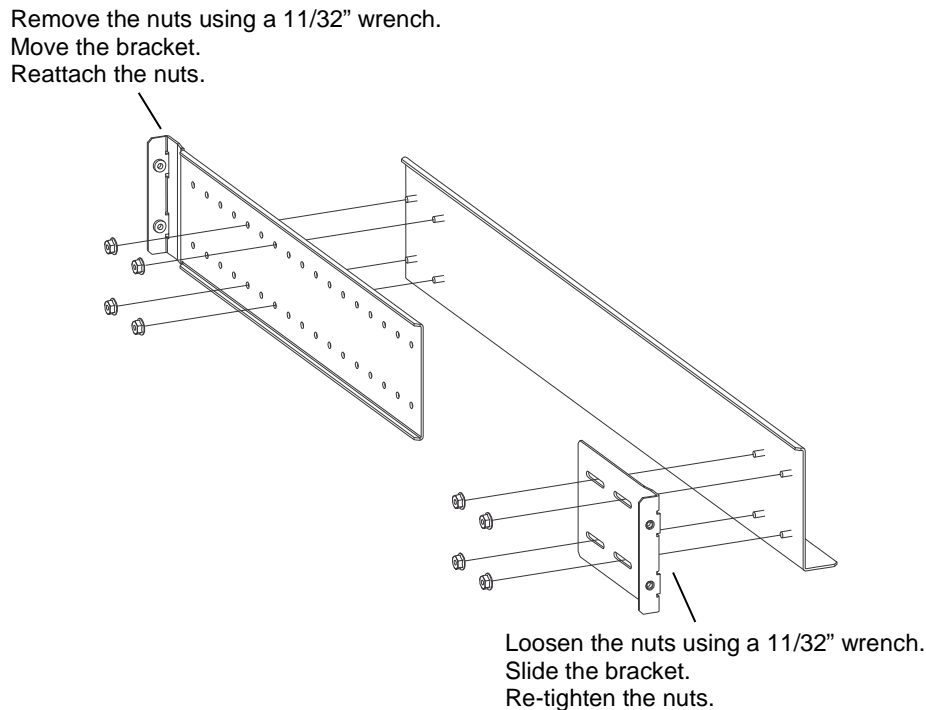

Figure 5-3 Adjusting the Location of the Rack Rail Assembly Brackets
3. Each rack rail assembly bracket has four hex head nuts that are used to position the brackets. To move a long bracket, use a 11/32" wrench to remove all four nuts, reposition the bracket along the four threaded studs of the rack rail and then re-attach the four nuts. The short bracket is used to "fine tune" the length of the assembly by loosening the four nuts with the 11/32" wrench, sliding the bracket and then re-tightening the nuts. See Figure 5-3.